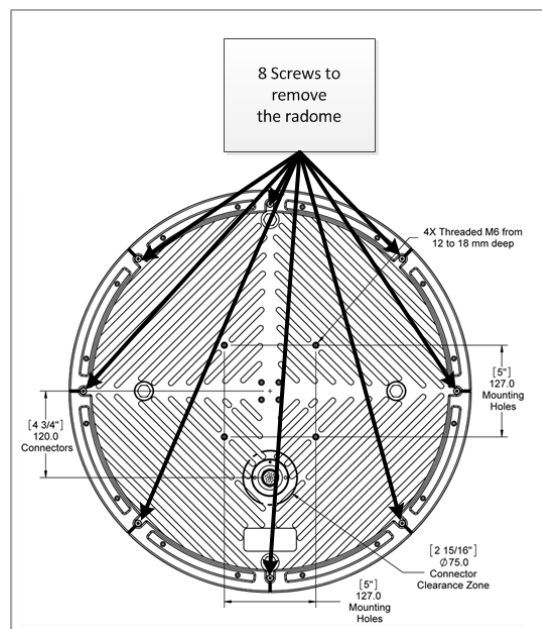

Figure 28 - Radome screws location
- Step 2 Remove the radome by first unscrewing the 8 screws under the base of the unit. Refer to Figure 28 to see the location of the screws.